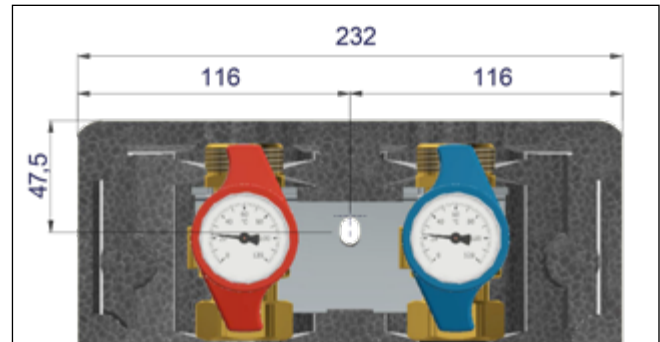
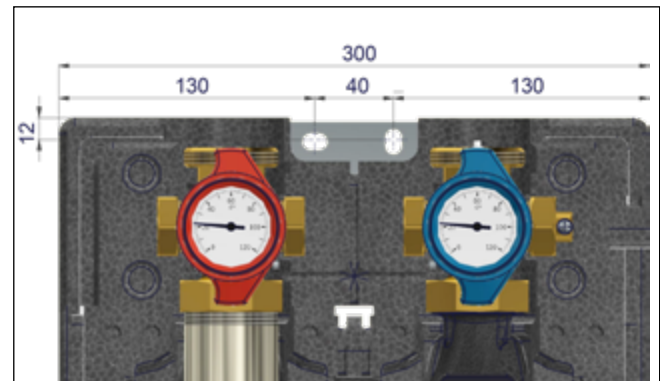

Fig. 7-1: KLSC20 installation diagram
Fig. 7-2: KLSC25 and KLSC32 installation diagram
- Observe Fig. 7-1 on page 8 and Fig. 7-2 on page 8 when mounting the unit.
- Remove the boiler charging unit (A) front cover.